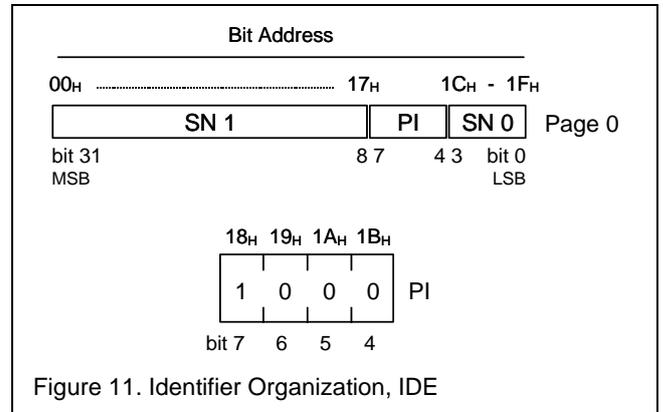

Figure 11. Identifier Organization, IDE
The Identifier, IDE, is a factory programmed quasi unique 32 bit pattern that serves the function of a device serial number (SN) and product type identification (PI) and can not be altered. The Identifier is located page 0 and only supports reading, see Figure 11.